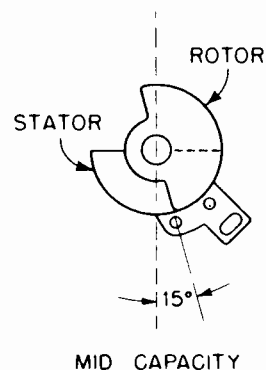

FIGURE 9. FINE TUNING TRIMMER SETTING
12. Set the fine tuning trimmer to 15° off mid-capacity (toward less capacity) as in Figure 9.